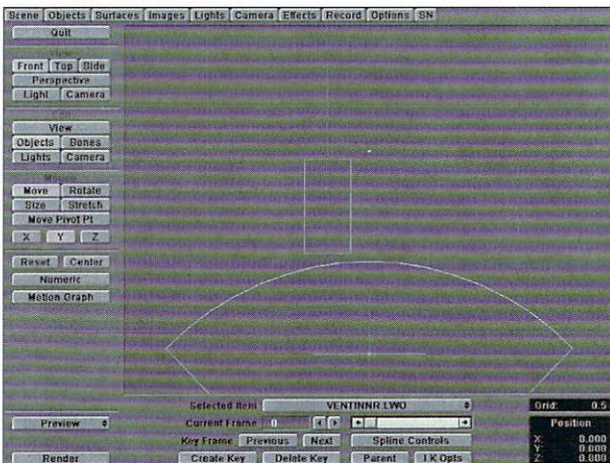

Figure 13: The vent object after resetting the Y-axis position.
- Note the pivot point's Y value (0.275 in this case) and select the Move function. Note that the Y position of the vent object has also been automatically shifted to 0.275. Click on Numeric (n), enter 0, 0, 0.001 for the X, Y, Z values and keyframe it at 0. Your vent object will now be displaced downward (Figure 13); this is normal.